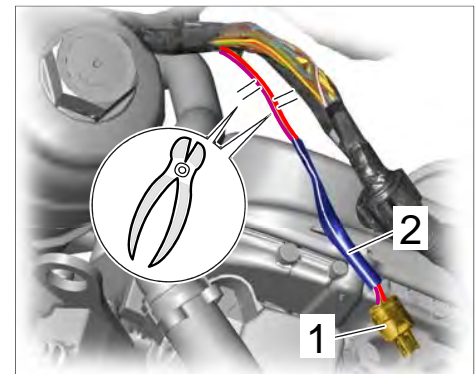

Figure 8
4.2 Cut the wires for the hydraulic valve connector ⇒ *Figure 8 -item1-* at an **offset** position in the marked area. Leave an offset of 20 mm so that the connection points will not be lying on top of each other. Then detach and remove the sleeve on the wire ⇒ *Figure 8 -item2-*. The sleeve will be re-used during installation.